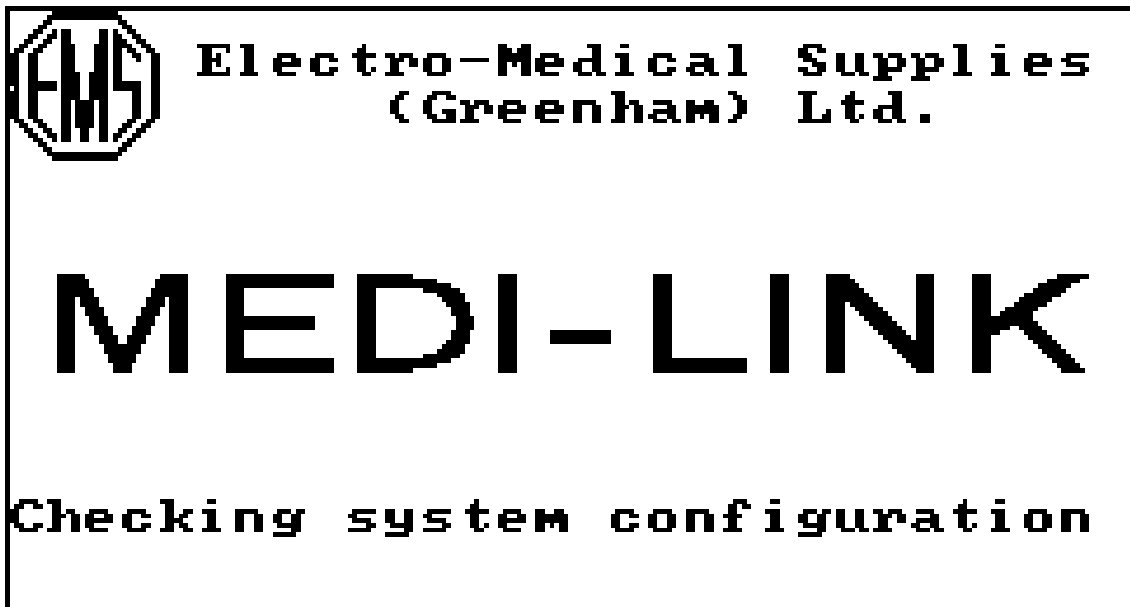

Figure 1 - Logos and Company name
8. The system will display the EMS logo, Company name and MEDI-LINK followed by the message "Checking system configuration" (see figure 1). The Medi-Link will detect the presence of the Pulsed Shortwave Module, give a short beep and display the messages "Configuration has changed" and "Loading application programs". The Medi-Link will then take between 15 and 45 seconds to re-configure itself and load the new application.
1. Having connected the Medi-Link system to a suitable mains supply and positioned the display at a suitable angle, switch on using the power switch on the Control Module. The mains indicator on the Control Module will light and the display will show the title screen (figure 1) and after approximately two seconds, the System Menu will appear (see figure 2).